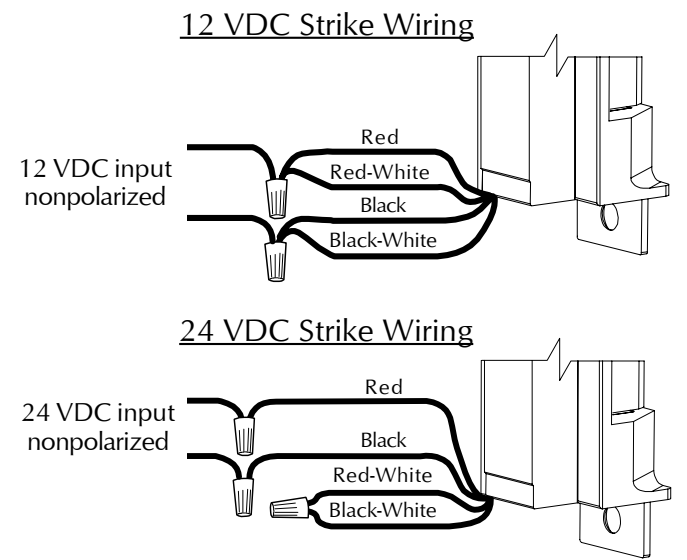

Figure 5
- Wire strike solenoid for proper voltage (Figure 5). **Caution: Do not connect 24 VDC to 12 VDC configured strike.**